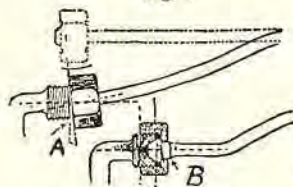

Fig. 1A
Gasoline feed-pipe connections should have special unions. See Index under "Pipe connections." The threads are very fine and can easily be crossed. Therefore use every precaution not to "cross-thread" when joining a gasoline pipe coupling as at (A) (Fig. 1A). In (B) the threading is straight and correct.